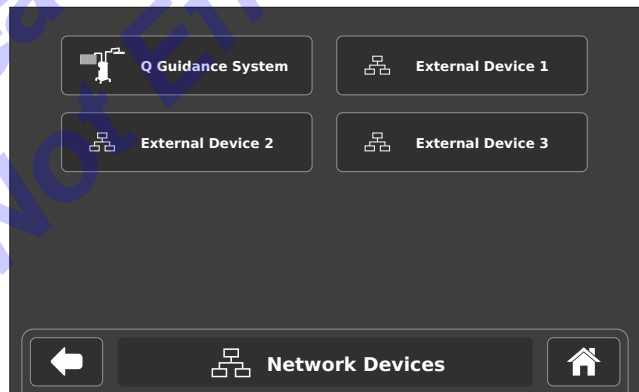

Figure 28 – Network Device Screen
**NOTE:** The Network Devices screen displays connected external devices. Only Stryker supported devices will appear after successfully connecting with the CORE 2 Console. For example, this screen is used to confirm the Q Guidance System is connected (Figure 28).